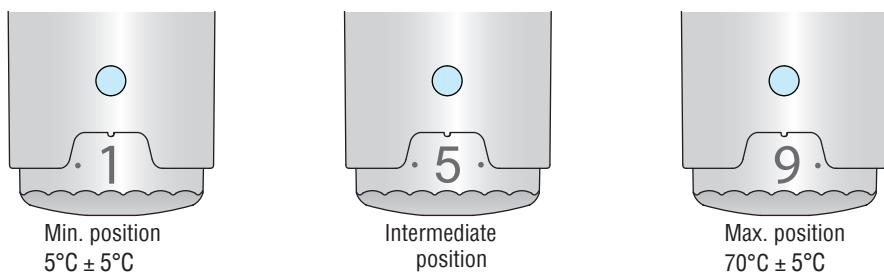

Fig. 16
- The product has a knob which is used to select the desired temperature of the Towel rail water: temperature setting between $[5^{\circ}\text{C} \div 70^{\circ}\text{C}] \pm 5^{\circ}\text{C}$ (Fig. 16).